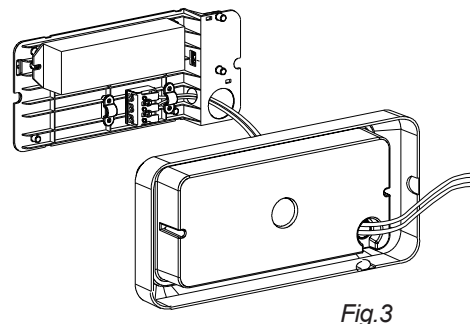

Fig.3
- Step4 Connect the cable to the lamp through the cable entry openings.(as Fig.3)